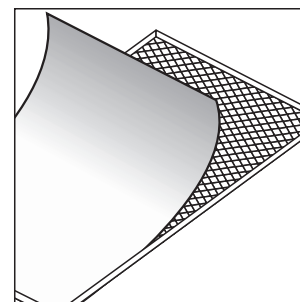

FIGURE 8
3. RC55i, RC65i, RC85i models: Before spray painting the grille, carefully remove the grille's fabric scrim by peeling it away from the inside of the grille [figure 8]. Place this on a clean, flat surface where it will not get wrinkled.